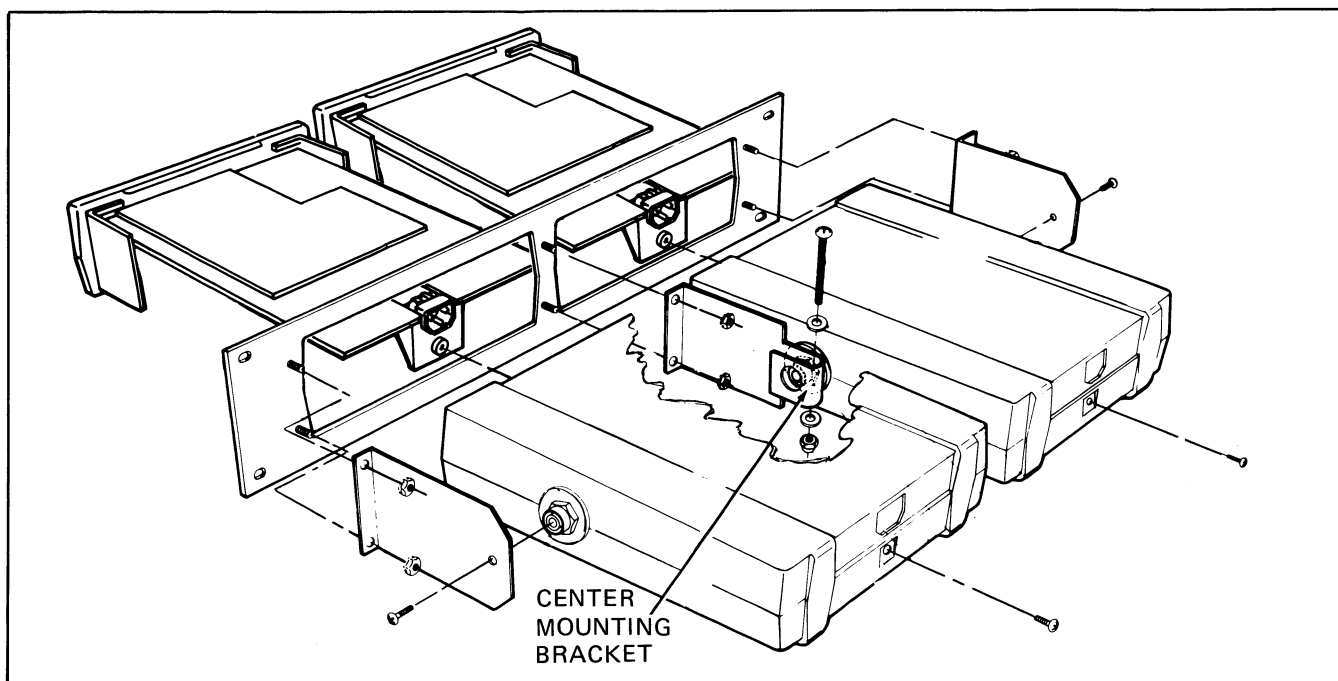

Figure 600-4. Rack Mounting Kit, Side-by-Side Mounting
3. Install the center mounting bracket as shown in Figure 600-4 and secure it to the mounting panel using the nuts provided.